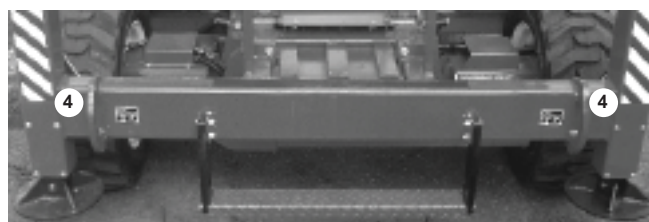

Figure 10.8 - Tie-down Lugs
Always attach chains to the front and back tie-down lugs (4) (see figures 10.8 & 10.9).